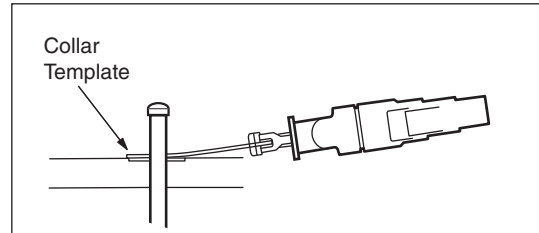

Figure 8. Riser Installation
2. Use the UltraFlex® Collar Template (part Number 1-17-7) to cut each stub-up ensuring collars sit at a height to accommodate approximately 1/2" (1.3 cm) of final finish material. See Figure 8.